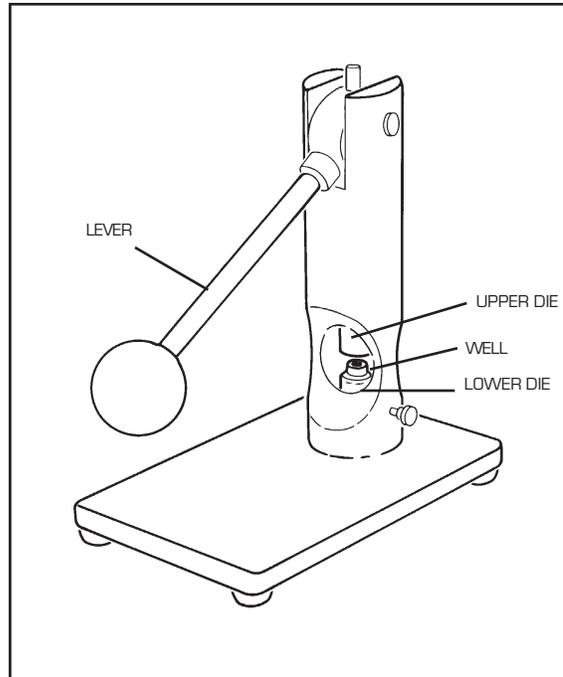

Figure 5.9
4. Place the pan in the well of the lower die of the sample encapsulating press (see Figure 5.9).